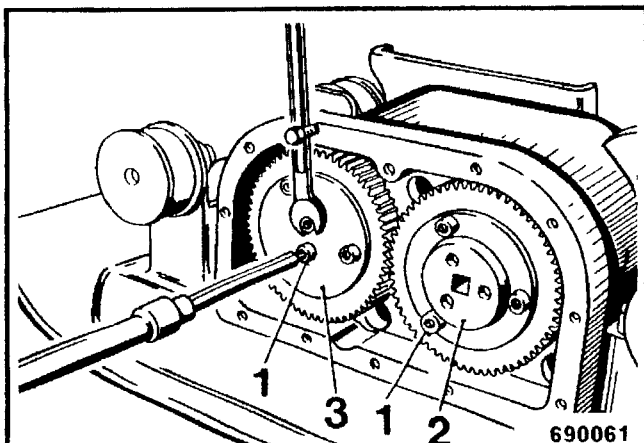

Fig. 3
- Hold the spanner against a stop (Fig. 3).
- Unscrew the mounting screws (1) for the cover plate (3) and the tappet (2).